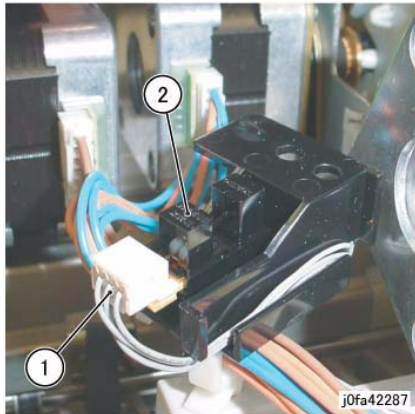

Figure 4 Removing the Front Tamper Home Sensor (j0fa42287)
9. Remove the Front Tamper Home Sensor Assembly. (Figure 4)